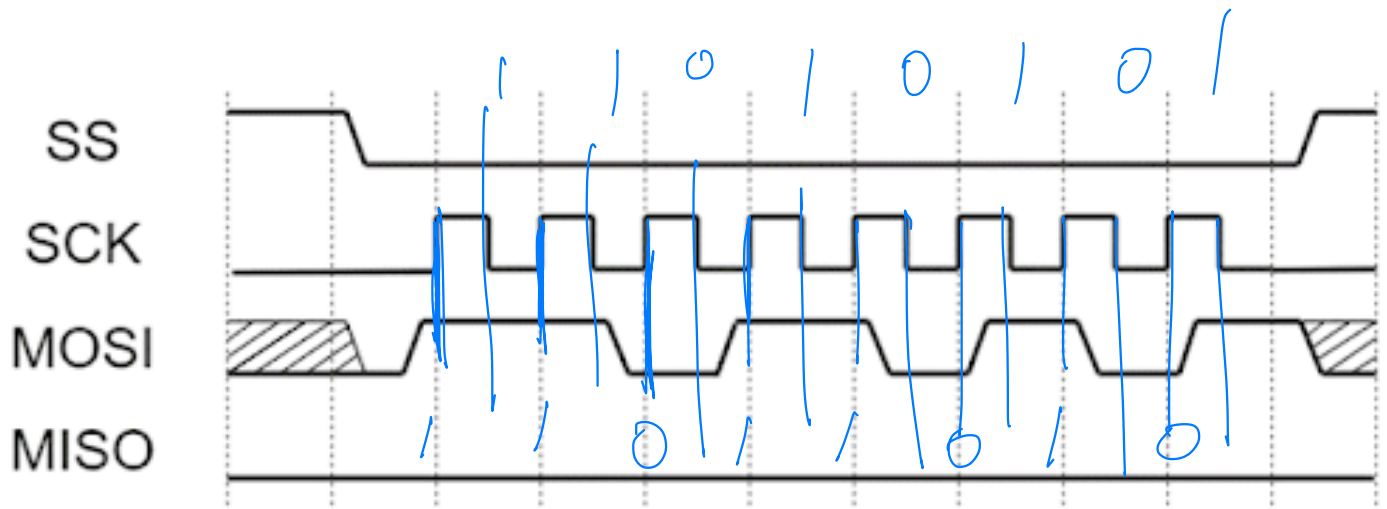

Figure 4: Timing diagram.
3. (7 points) As an embedded systems expert, you have been called in to help Team Apple debug their SPI system. The system consists of two off-chip devices connected to a master microcontroller through a shared bus and all communication is done using the SPI protocol. Unfortunately, their documentation for the system was corrupted and Team Apple is unable to identify the SPI operating mode for the off-chip devices. Luckily, the off-chip devices can display the most recent data they received, and you are able to deduce the operating mode (and consequently the clock polarity and clock phase) by examining a waveform and the devices' displayed data. Referring to Figures 4 and 5, what should the master microcontroller set its clock phase and polarity to communicate to each device?